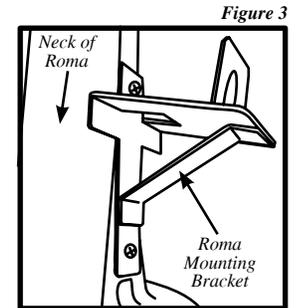

Figure 3
2. Attach **Roma Mounting Bracket** to Roma using the two screws that were removed in #1. *Figure 3*